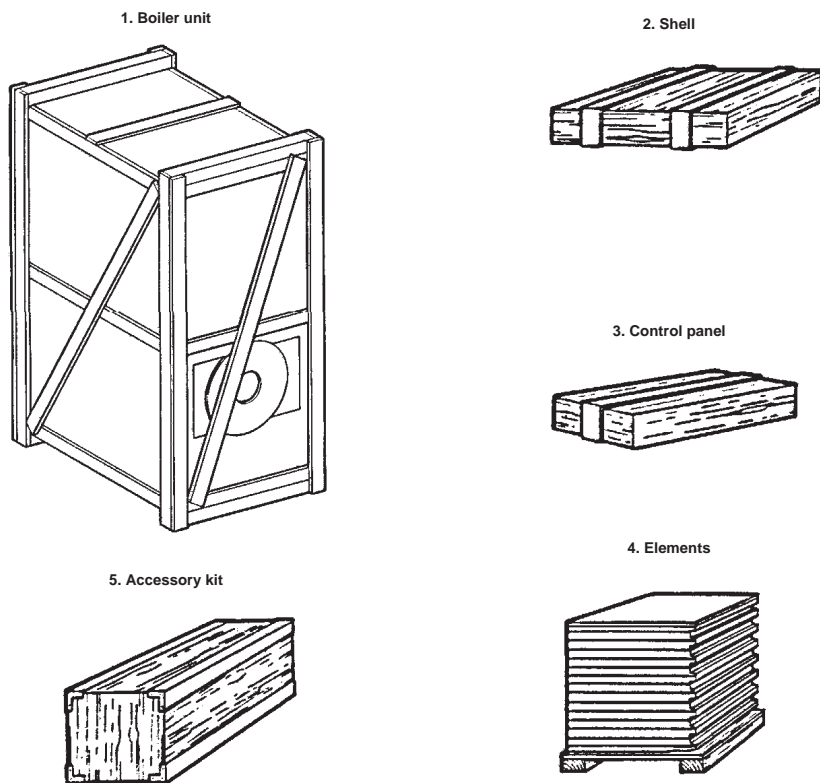

Fig. 4
3. Packing and dispatch (fig. 4)